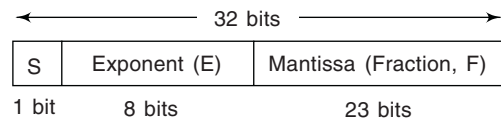

Fig. 2.11 Single-precision Binary Floating Point Numbers.
In the standard format for a single-precision binary number, Fig. 2.11, the *sign bit (S)* is the left-most bit, the *exponent (E)* includes the next eight bits and the *mantissa or the fractional part (F)* includes the remaining 23 bits.